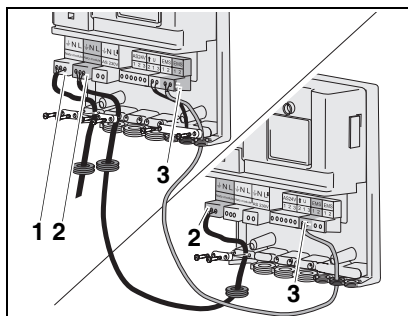

fig. 4 Connect two modules with each other, make mains connection.
It is possible to connect several different modules (e.g. EM10 and VM10) to each other. To connect two or more modules, the mains connection (fig. 4, pos. 2) and the EMS connection (fig. 4, pos. 3) can always be interconnected.
- Connect the Logamatic RC thermostat to the EMS connection (fig. 4, pos. 3).
- Connect the 230 V AC mains supply (fig. 2, pos. 1 and fig. 4, pos. 1).